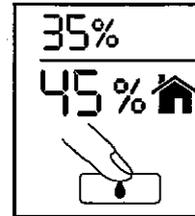

Fig. 20
- To change the humidity level from “continuous run” to a specific desired humidity level, press the humidistat button until you reach the desired level. For example, press the humidistat button once to set the humidity level to 35% (Fig. 20).